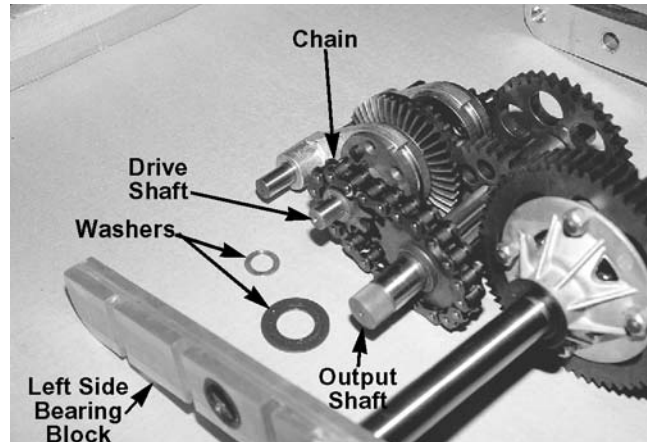

Figure 5-76.
17. Remove the left side bearing block. This allows the output shaft and drive shaft assembly to come loose from the transmission. Remove the large washer from the output shaft. Remove the smaller washer from the drive shaft. Remove the chain and both sprockets as one unit. See Figures 5-76 and 5-77.